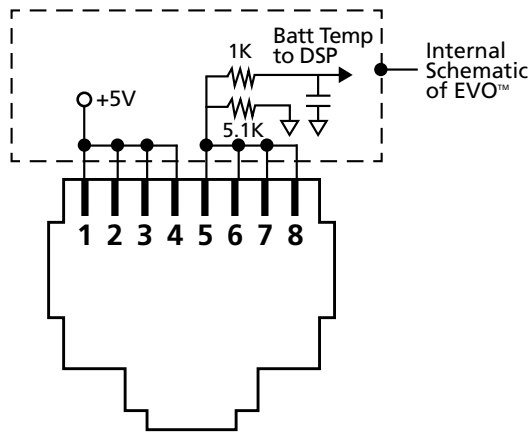

Fig 3.13 Pinout of RJ-45 Jack marked "Battery Temp Sensor" on the front panel of EVO™ [6 in Fig 2.1].
RJ-45 Plug [2 in Fig 2.5(a)]: The RJ-45 Plug is required to be plugged into the RJ-45 Jack marked "Battery Temp Sensor" on the front panel of EVO™ (6 in Fig 2.1). Pinout of the RJ-45 jack is shown in Fig 3.13.
Pinout of this RJ-45 Jack [marked "Battery Temp Sensor" on the front panel of EVO™ (6 in Fig 2.1)] is shown at Fig 3.13:
- o Connect to any of Pins 1/2/3/4 [Refer to Fig 3.13 for pinout of RJ-45 Jack. Pins 1 to 4 are internally shorted]
- o Connect to any of Pins 5/6/7/8 [Refer to Fig 3.13 for pinout of RJ-45 Jack. Pins 5 to 8 internally shorted]